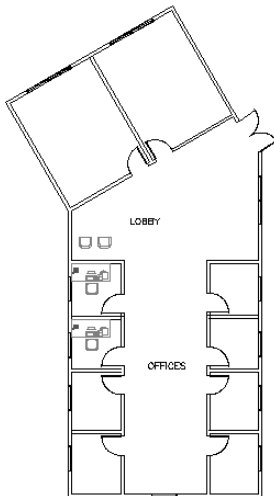

**Figure 18-30:** The office plan with added chairs and office furniture.
12. Choose Zoom Previous from the Standard toolbar (or choose View ⇨ Zoom ⇨ Previous). Save your drawing. It should look like Figure 18-30.